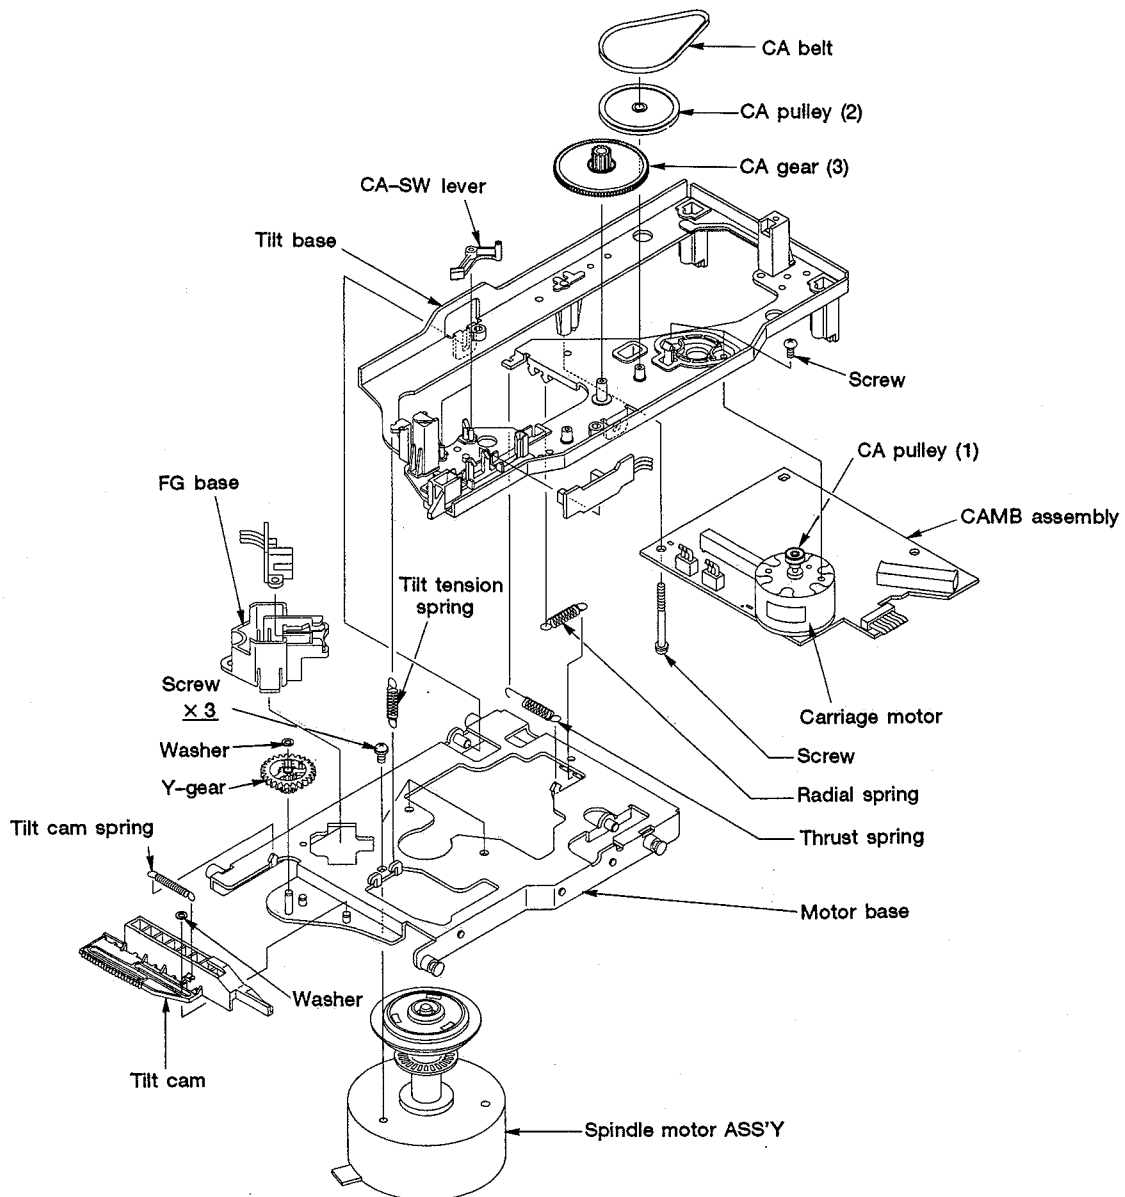

Fig. 2-3 Servo Mechanism unit
② Servo-Mechanism Unit (Refer to Fig. 2-3)